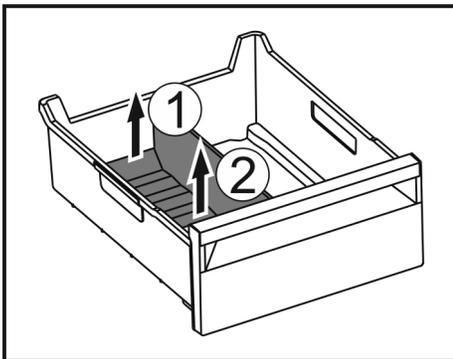

Fig. 96
- ▶ Lift the rear part of the ice compartment divider. Fig. 96 (1)
- ▶ Remove the ice compartment divider upwards. Fig. 96 (2)